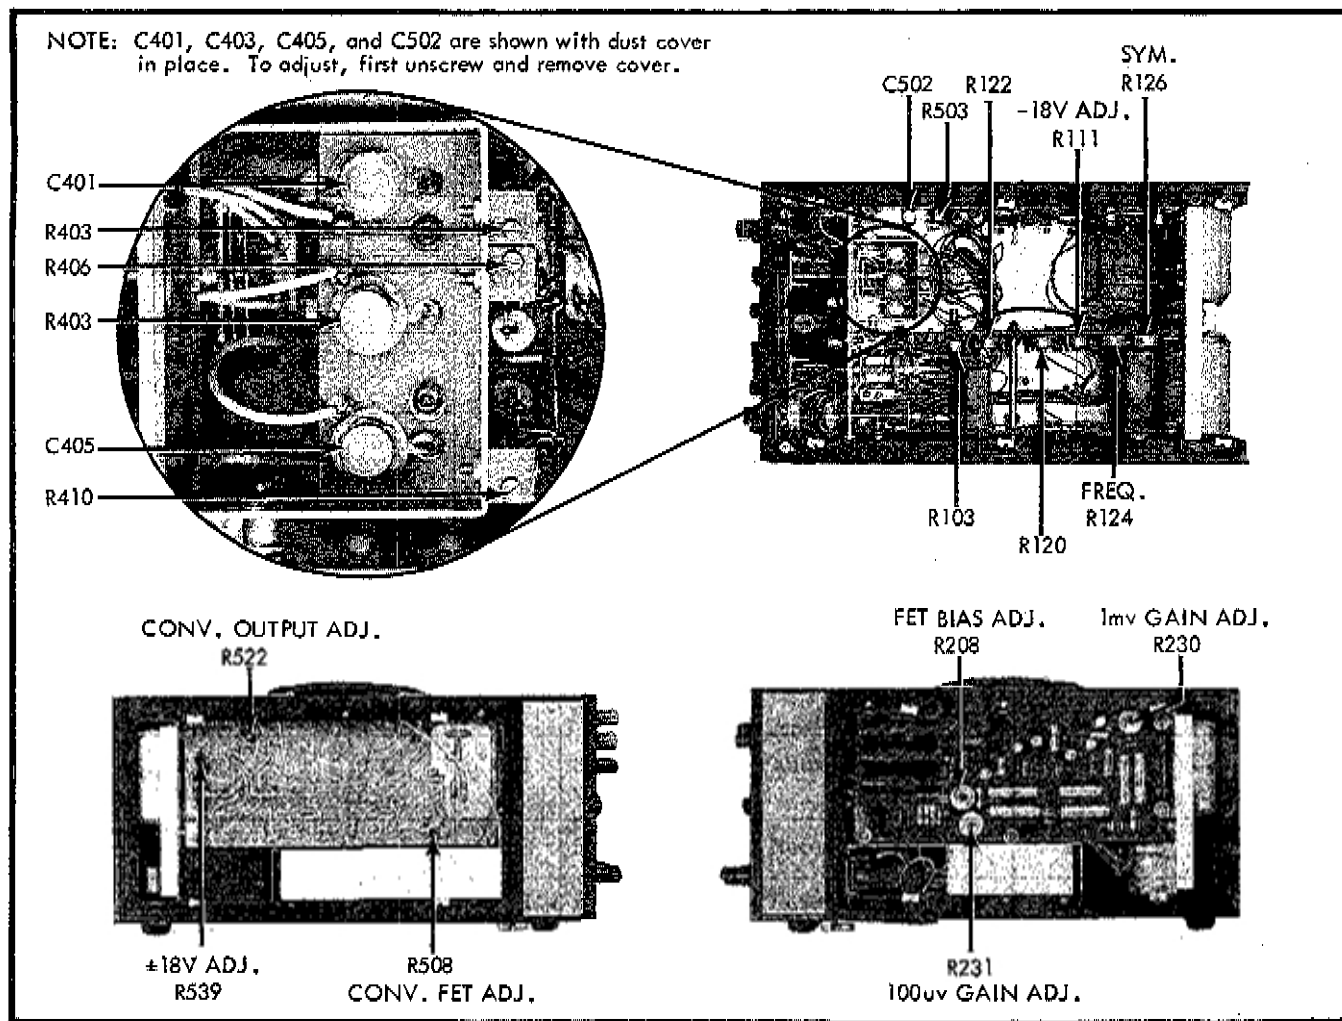

Figure 4-9. LOCATION OF INTERNAL ADJUSTMENTS
g. The correct output voltage should be -18.0 ± 0.1 volts. If calibration is necessary, adjust R111 (see Figure 4-9) for a null on test differential voltmeter.
- The correct output voltage should be +18.0 ± 0.1 volts. If calibration is necessary, adjust R539 (see Figure 4-9) for a null on test differential voltmeter.